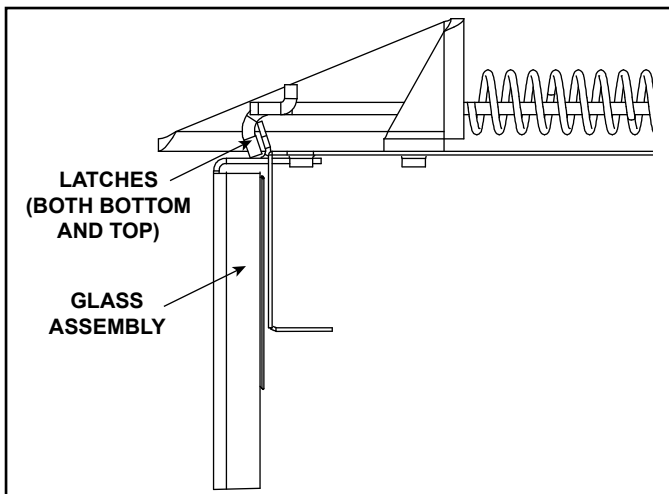

Figure 11.1 Fixed Glass Assembly
- Replace the glass assembly on the appliance. Pull out and latch the four glass assembly latches into the groove on the glass frame. See Figure 11.1.